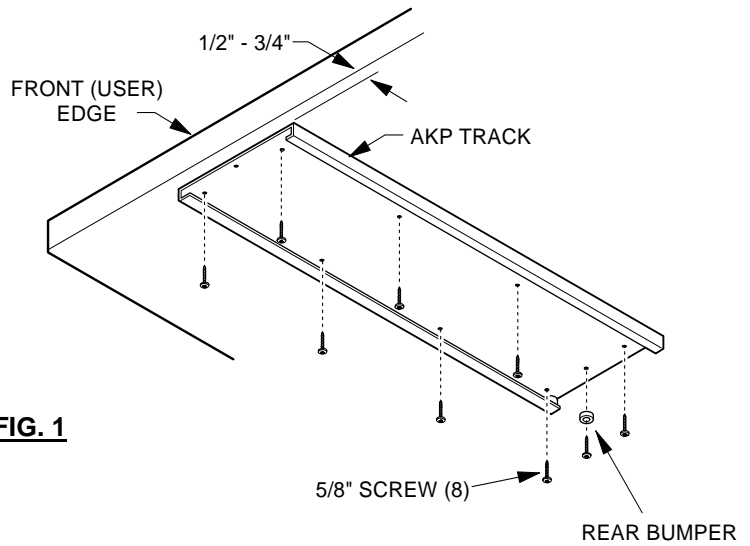

FIG. 1
1. Mount AKP track to underside of work surface using eight (8) #10 x .63 wood screws provided. Install screw with rubber bumper (provided) in center rear hole of track (**Fig. 1**). Do not install screw in center front hole. If work surface is not pre-drilled, position front edge of track 1/2" in from front edge of work surface and use holes in track as template to drill holes. Drill holes, 1/8" dia. x 5/8" deep using care not to drill through top of work surface.